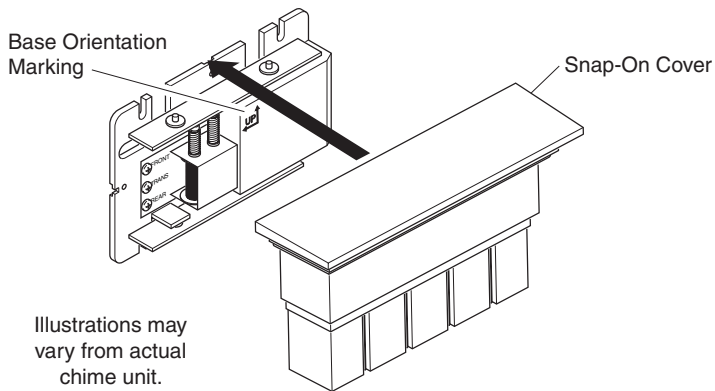

Figure 4 - Mounting Snap-On Cover
- **For snap-on covers:** Apply pressure to the cover until it snaps into place (see Figure 4). Firmly grasp cover and pull to remove from base.